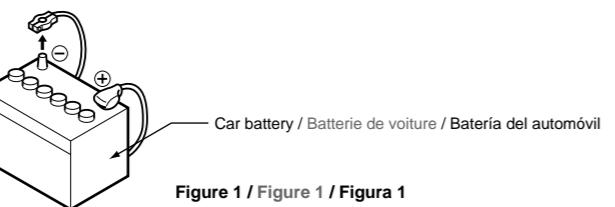

Figure 1 / Figure 1 / Figura 1
- Be sure to disconnect the battery "⊖" terminal before starting. This is to prevent short circuits during installation. (Figure 1)